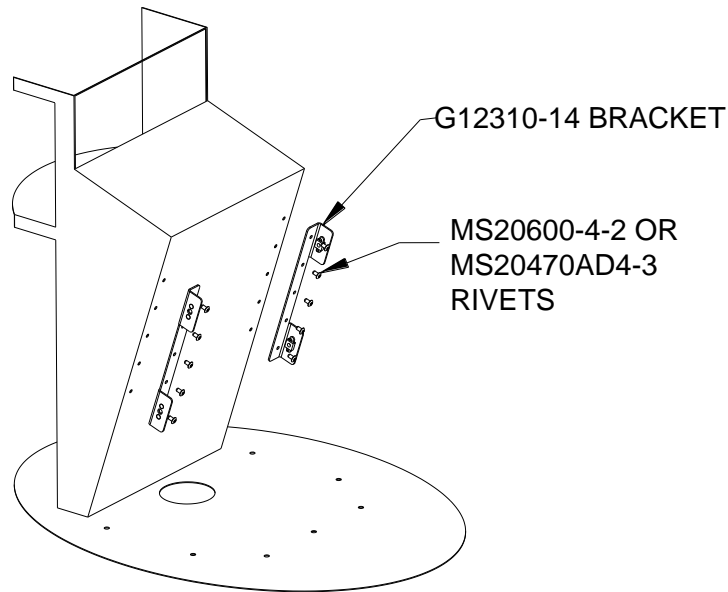

FIGURE 5
- 3.5. Locate brackets G12310-14 on each side of the aft wall of the instrument panel support structure (see Figure 5) and tape in place.